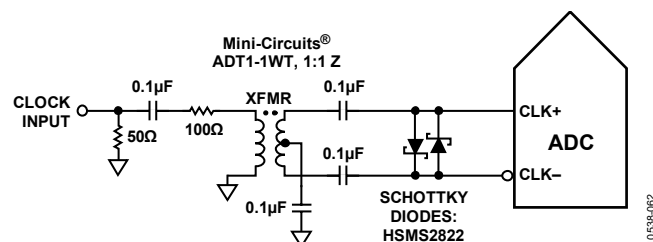
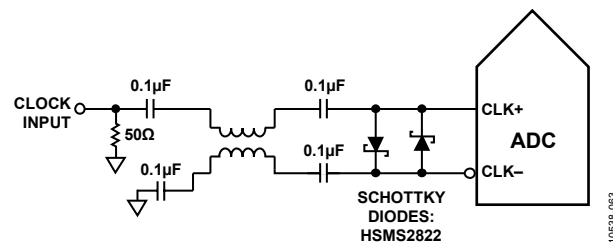

Figure 62. Transformer-Coupled Differential Clock (Up to 200 MHz)
Figure 63. Balun-Coupled Differential Clock (Up to 1 GHz)
Figure 62 and Figure 63 show two preferred methods for clocking the AD9653 (at clock rates up to 1 GHz prior to internal clock divider). A low jitter clock source is converted from a single-ended signal to a differential signal using either a radio frequency (RF) transformer or an RF balun.